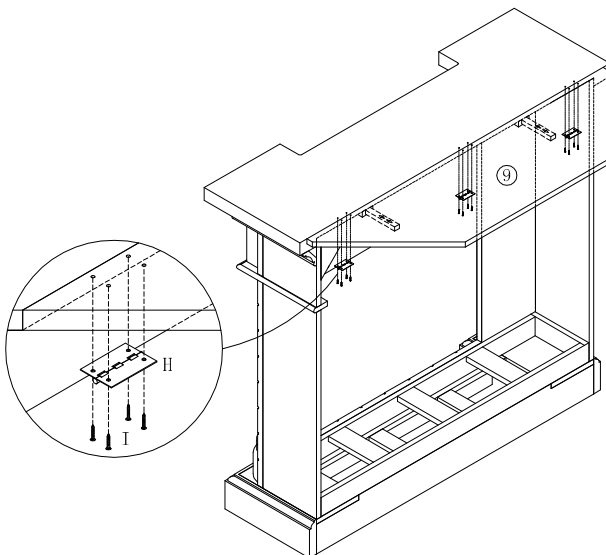

Figure 6
USE 3PCS HINGE(H) AND 12PCS FLAT HEAD SCREW(I) TO ASSEMBLE TRIANGLE TOP PANEL(1) AND TRIANGLE TOP PANEL (9) TOGETHER; AS FIGURE6 SHOWN.